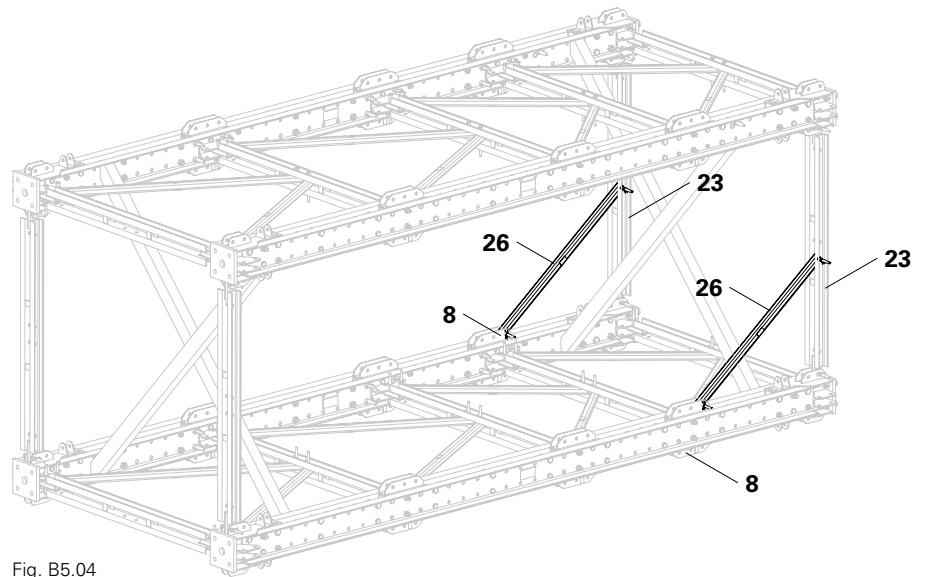

Fig. B5.04
1. On each side, insert 1x Diagonal Strut VST (26)* into the Horizontal Ledger VST 200 (23).
2. Connect the Diagonal Strut VST (26) to the Bracing Connector VST (8) and Horizontal Ledger VST 200 (23) using 1x Fitting Pin Ø 21 mm (9) each. (Fig. B5.04)